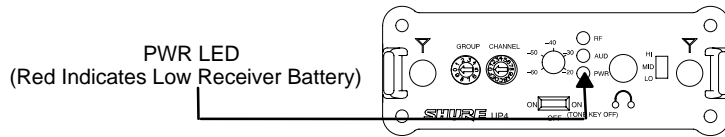

FIGURE 8
2. Observe the PWR LED on front panel (See figure 8). If it is glowing red, the battery power is low and the battery should be changed immediately.